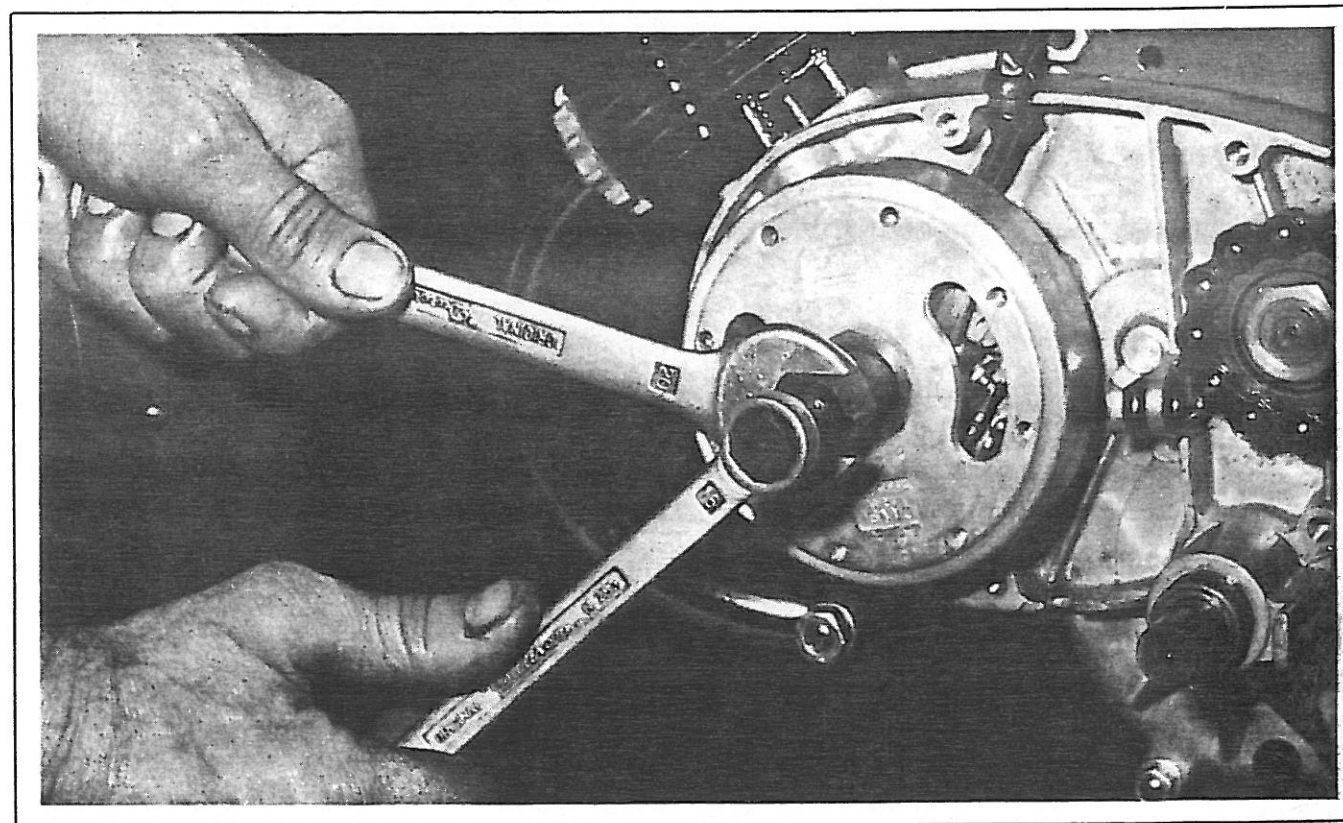

Figure 6.
8. Use puller C to remove the flywheel (Figure 6).